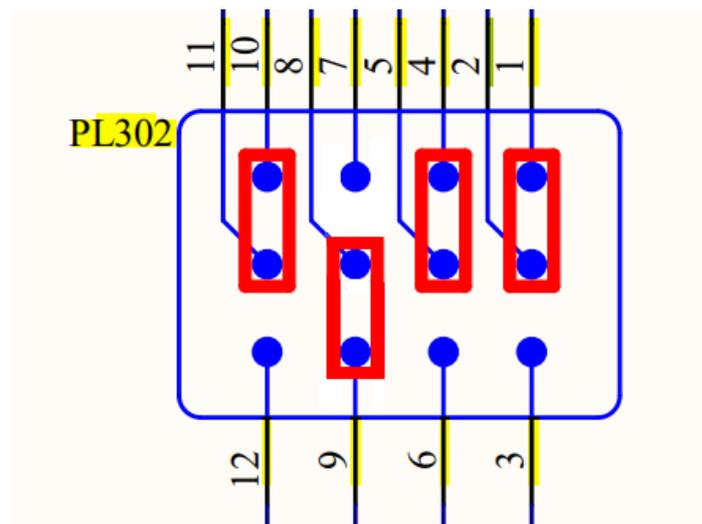

Figure 3: PL302 power switch selector configuration
- Configure the EVB DIRECT SUPPLY (PL302 of EVB) jumpers as in Figure 3: